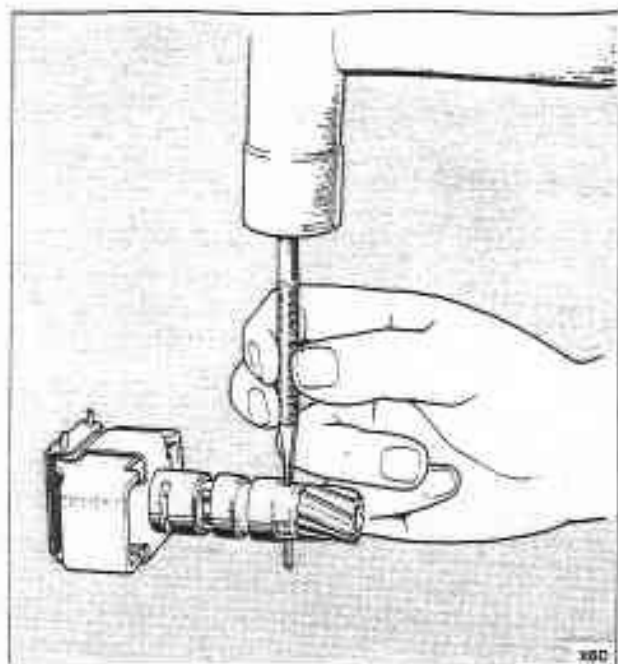

Fig. T10-5 Removing governor driven gear retaining pin
1. Drive out the gear retaining pin as shown in figure T10-5.